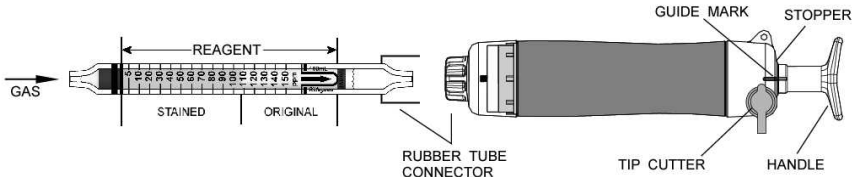

Fig.1
- ② Insert the detector tube into the aspirating pump securely as shown in Fig.1. (Arrow mark shall point to the pump.)
- ③ Align the guide marks on the shaft and stopper of the aspirating pump.
- ④ Pull the pump handle at a full stroke until it locks and wait for 1.5 minutes or until the completion of sampling is confirmed with the flow indicator of the pump (See descriptions about the flow indicator in the instruction manual of the pump).
- ⑤ On completion of sampling, read the scale at the maximum point of the stained layer.